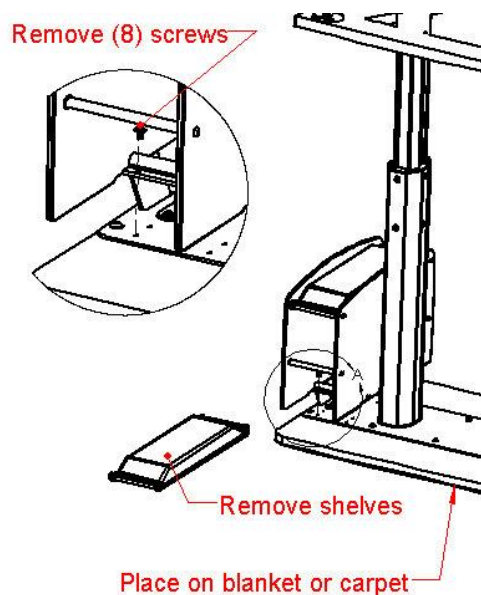

Figure 11
Remove shelves. Place unit upside down on a blanket or carpet. Remove (8) screws attached to the top plate with a #2 screw driver (Figures 11). The pedestal should be loose. Remove the pedestal and set on one side on a protected surface.